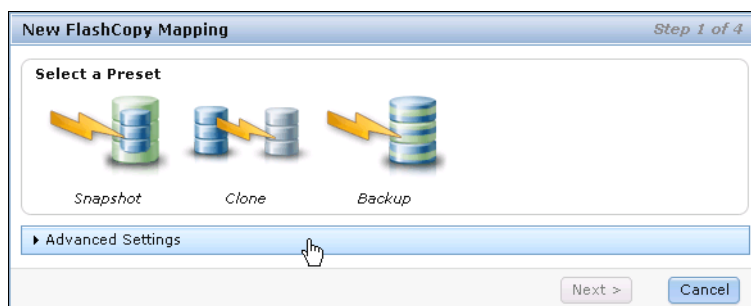
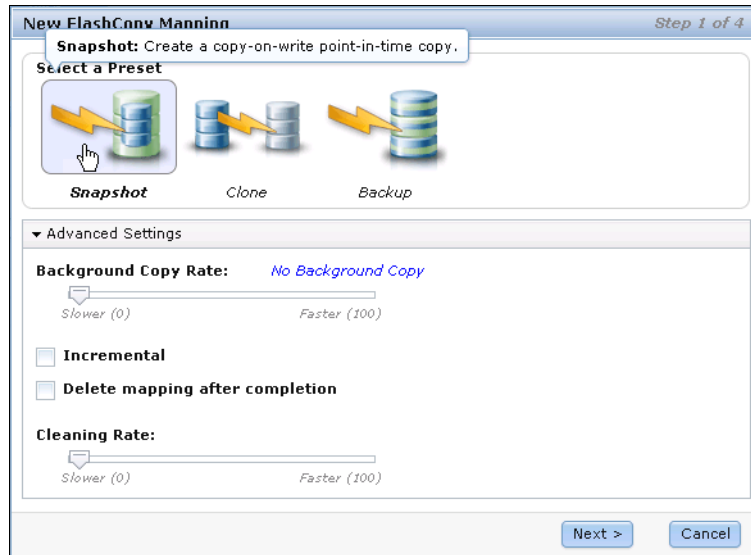

Figure 9-15 Choose a preset most similar to your requirement
Figure 9-16 Default setting for the snapshot preset
- a. After you click **Create new target volumes**, the wizard lets you choose the preset, but no matter which preset you choose, you can modify the setting of the FlashCopy mapping. Choose one preset that has the most similar configuration to the one required, and click **Advanced Settings** to make any appropriate adjustments on the properties (Figure 9-15). Figure 9-16 on page 361 shows the default setting.